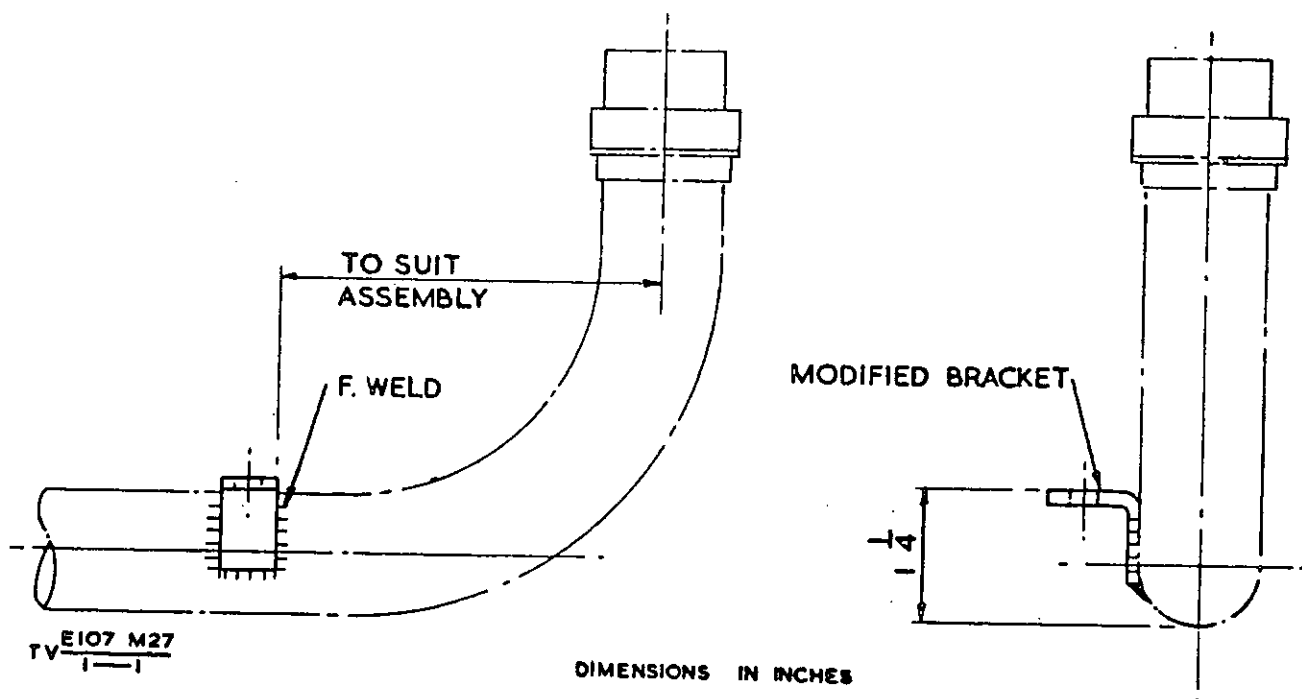

Fig 1 - Suction pipe assembly
e. Cut off 5/8 in. from one end of bracket, and re-weld to suction pipe at position shown in Fig 1.
(1) Remove manufacturer's identification plate secured above oil filter.
(2) Manufacture a plate of similar size, and engrave or stamp plate with original serial number, followed by 'CONVERTED TO MK 4B BY'.